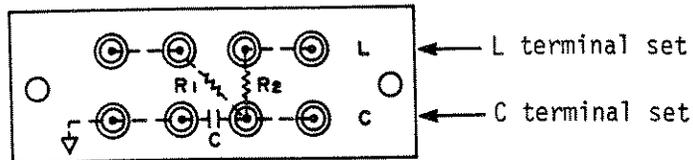

Figure 4-6. HP 16074A Quasi-inductor.
2. Connect 100 $\mu$ H quasi-inductor "C" terminals direct to 4274A UNKNOWN terminals. See Figure 4-6.